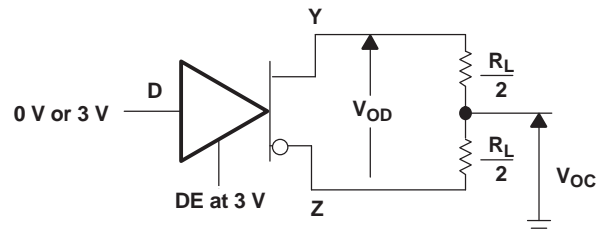

Figure 1. Differential and Common-Mode Output Voltages
| $ V_{OD} $ Differential output voltage magnitude (2)                    | $R_L = 54 \Omega$ ,See Figure 1                  | SN55LBC180       |                    | 1 2.5 5   | V             |
| $\Delta V_{OD} $ Change in magnitude of differential output voltage (3) | See Figure 1 and Figure 2                            |                  |                    | $\pm 0.2$ | V             |
| $\Delta V_{OC} $ Change in magnitude of common-mode output voltage (3)  | $R_L = 54 \Omega$ , See Figure 1                     |                  |                    | $\pm 0.2$ | V             |